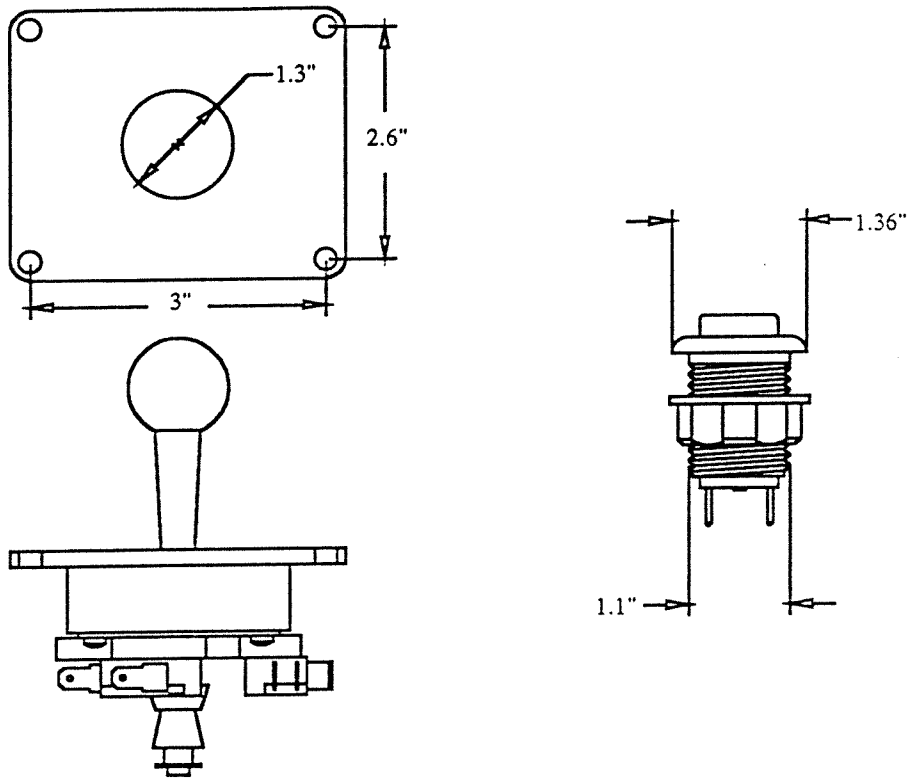

FIGURE 3
**NOTE:** When buttons are securely placed and tightened in the control panel assembly, a small amount of clear RTV Silicone may be placed on two or three areas of the lock-nut to keep the switches from being unscrewed from the top of the panel. (see figure 3)